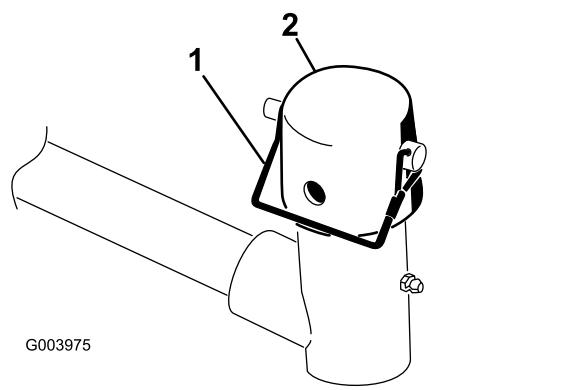

Figure 9
- 9. Remove the snapper pin and the cap from the lift-arm pivot yoke (Figure 9).
Note: Use the slot if a steering cutting unit is desired or use the hole if the cutting unit is to be locked in position (Figure 9).